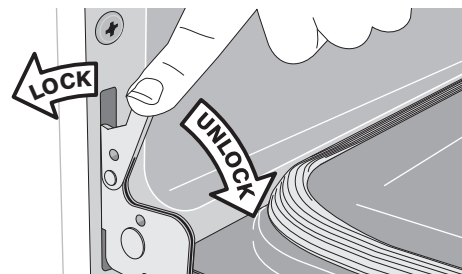

Figure 21: Door hinge locks
2. Pull the door hinge locks on both left and right door hinges down from the oven frame completely towards the oven door (See Figure 21). A tool such as a small flat-blade screwdriver may be required.
4. Push the door hinge locks up towards and into the oven frame on both left and right oven door hinges to the locked position (See Figure 21).